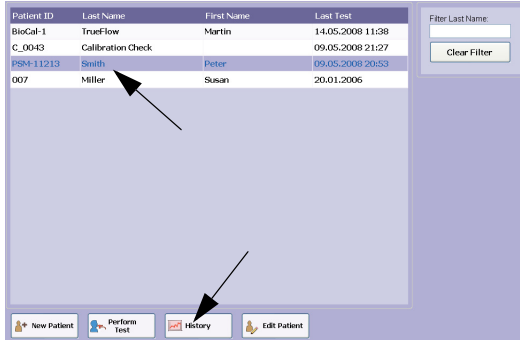

Fig. 3-20: Retrieving/printing stored tests
- Click the **History** button (Fig. 3-20:).